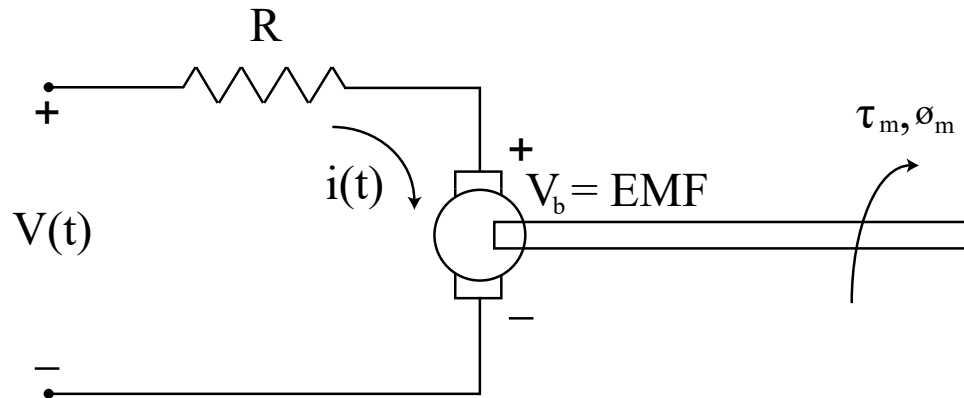

Figure 2. Electromechanical Model of a DC Motor. This model neglects motor inductance.
3 Finally, we consider the electromechanical dynamics of the motors on the 2-DOF Quanser robot. Figure 2 shows an electromechanical model of a typical DC motor, where $V(t)$ is the armature voltage, R is the armature resistance, $i(t)$ is the armature current, V_b is the back EMF, τ_m is the motor torque and $\dot{\phi}_m$ is the angular velocity. We will neglect the armature inductance.
- 3.2 **Voltage Control:** Using the model in Figure 2, derive the relationship between voltage $V(t)$ and torque τ_m . Substitute this formula into your dynamic equation from Problem 2(c) to get an equation of the form: